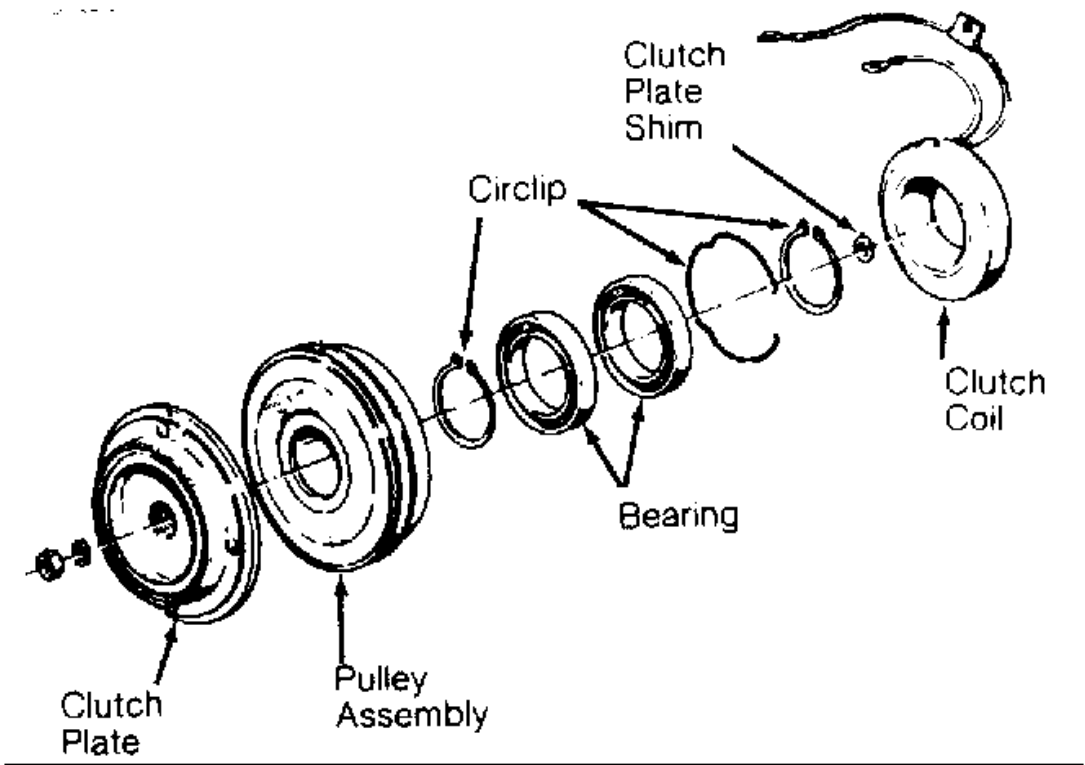

Fig. 2: Bosch 6-Cylinder Compressor Clutch
2. Using a feeler gauge, check clutch plate-to-pulley clearance. Clearance should be .028-.051" (.7-1.3 mm). If clearance is not correct, remove clutch plate and replace clutch plate shim. See Fig. 2 .